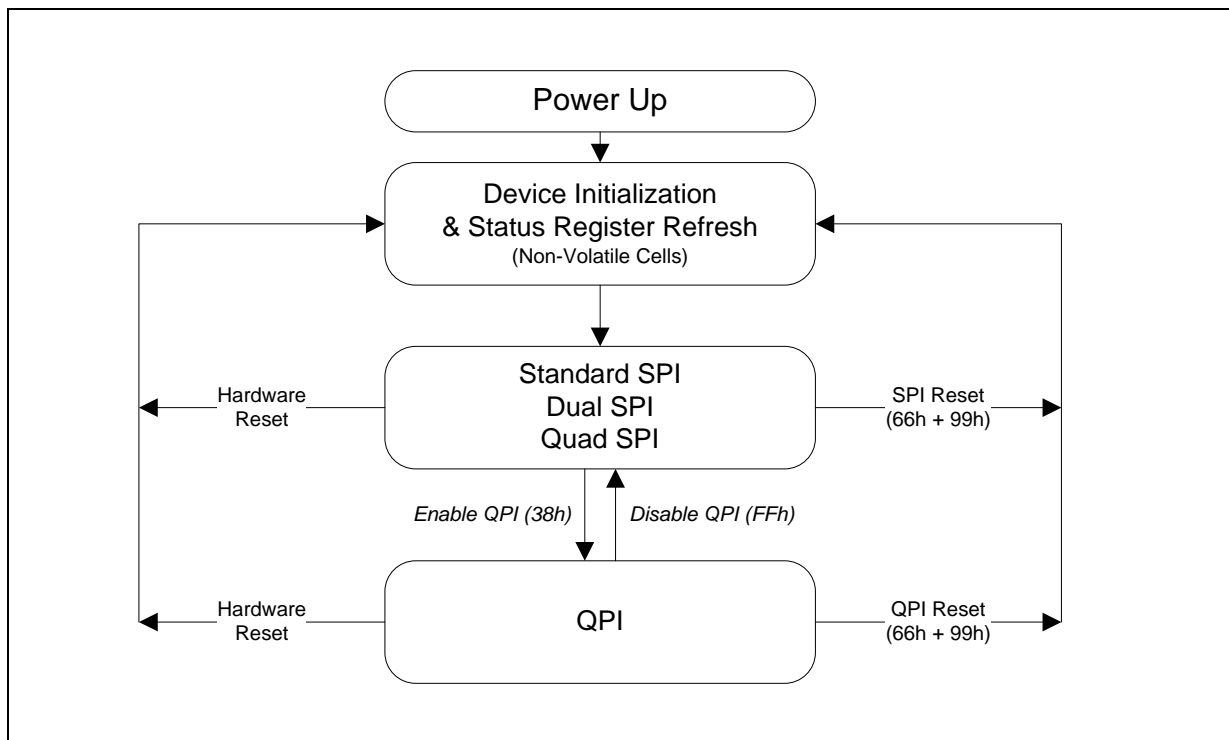

Figure 3. W25Q16JV Serial Flash Memory Operation Diagram
The W25Q16JV supports Quad Peripheral Interface (QPI) operations only when the device is switched from Standard/Dual/Quad SPI mode to QPI mode using the “Enter QPI (38h)” instruction. The typical SPI protocol requires that the byte-long instruction code being shifted into the device only via DI pin in eight serial clocks. The QPI mode utilizes all four IO pins to input the instruction code, thus only two serial clocks are required. This can significantly reduce the SPI instruction overhead and improve system performance in an XIP environment. Standard/Dual/Quad SPI mode and QPI mode are exclusive. Only one mode can be active at any given time. “Enter QPI (38h)” and “Exit QPI (FFh)” instructions are used to switch between these two modes. Upon power-up or after a software reset using “Reset (99h)” instruction, the default state of the device is Standard/Dual/Quad SPI mode. To enable QPI mode, the non-volatile Quad Enable bit (QE) in Status Register-2 is required to be set. When using QPI instructions, the DI and DO pins become bidirectional IO0 and IO1, and the /WP and /HOLD pins become IO2 and IO3 respectively. See Figure 3 for the device operation modes.